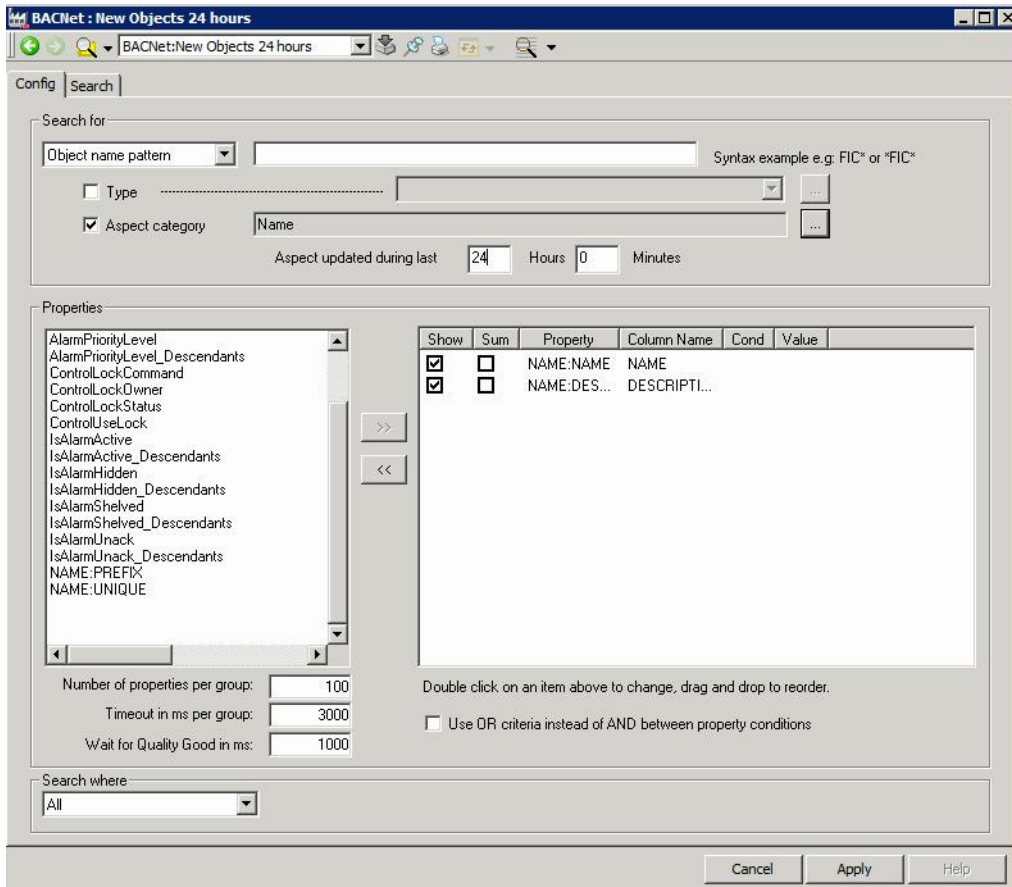

Figure 10. New Object 24 hours
- In the Properties window, select the Description and Unique parameters, use the >> button to select them for presentation. Set the Hours field to 24 in the **Aspect updated during last** function as shown in Figure 10.